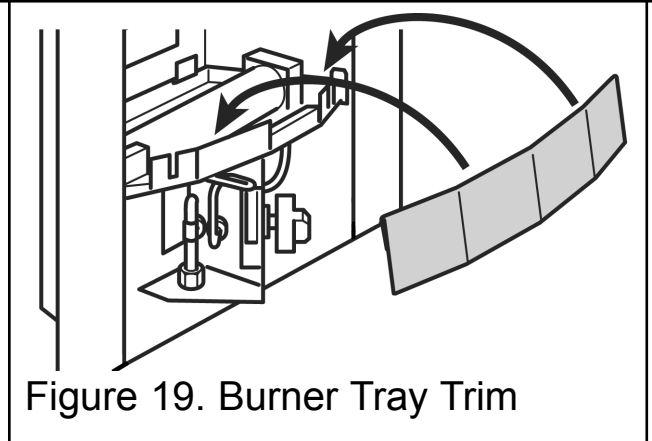

Figure 19. Burner Tray Trim
1. Fit the burner tray trim over the front rim of the burner tray. Push the trim fully down. See figure 19.